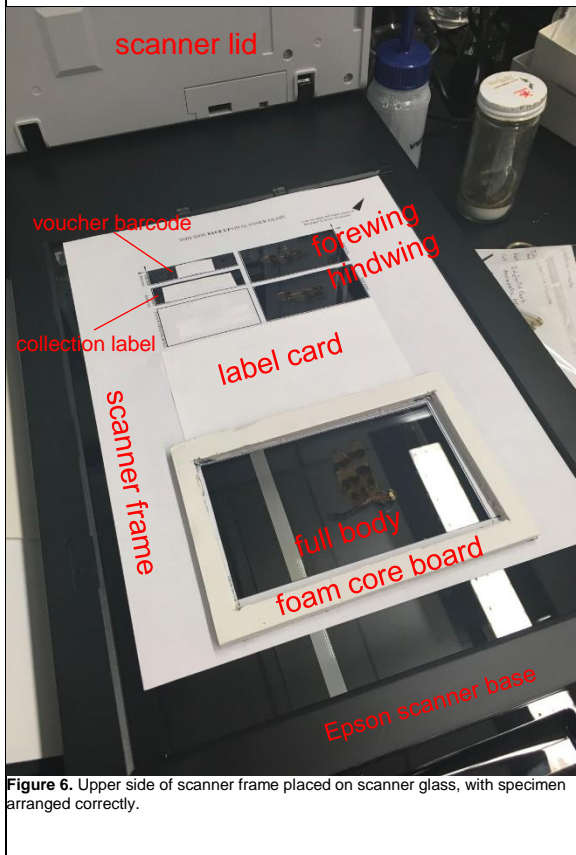

Figure 6. Upper side of scanner frame placed on scanner glass, with specimen arranged correctly.
5. Place the following items in the proper window of the scanning frame (see Fig. 6).